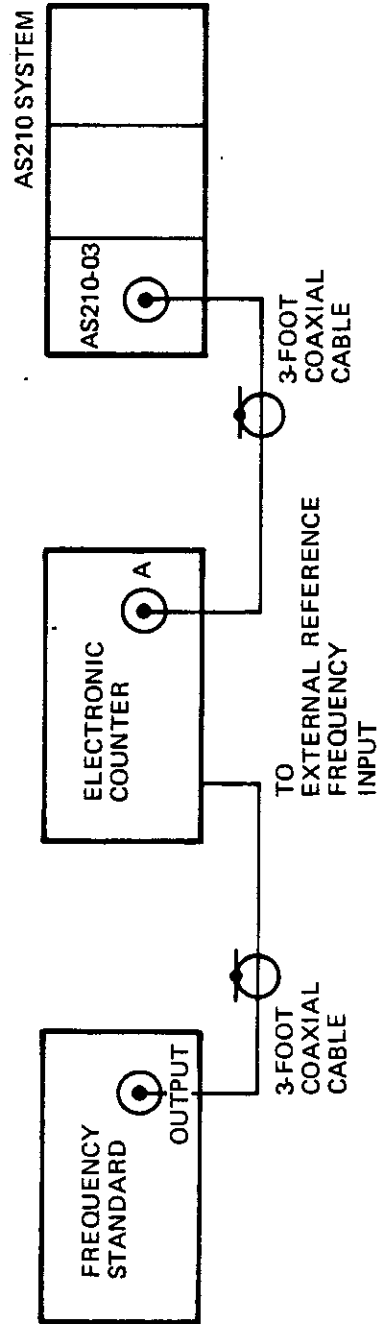

Figure 5.1 AS210-03 Frequency Generator RF Output Frequency Test Configuration
- B. Connect the equipment as indicated in Figure 5.1 and apply power to the AS210. The Rubidium Frequency Standard in the AS210 system will require 20 minutes warm-up time to reach the specified frequency accuracy.